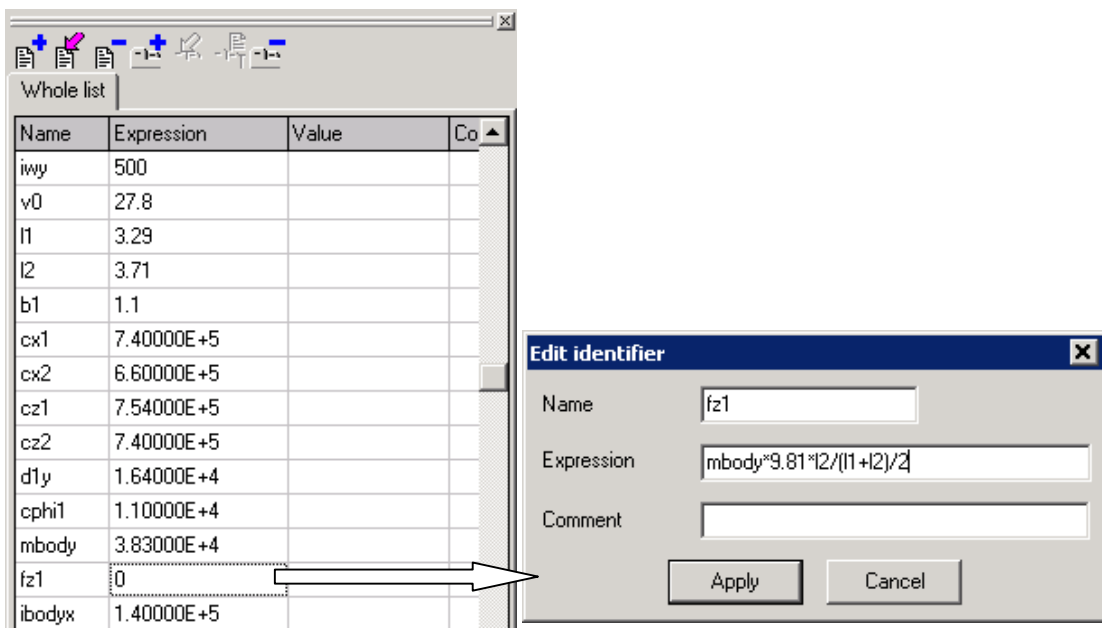

Figure 2.20. Static spring force as an expression
6. To insert this expression instead of the value of the identifier, double click by the left mouse button on the corresponding (**Fz1**) row of the identifier list and write down the expression in the appeared window (Fig. 2.20).